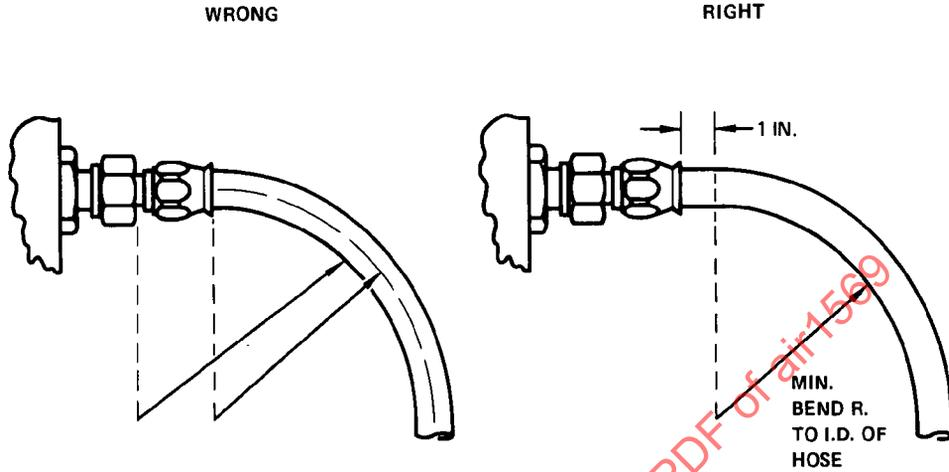

FIGURE 10
- 5.2.7.1 Measurement of Bend Radius: Measure the bend radius from the inside of the bend. Allow at least one inch straight run out of the fitting. (See Fig. 10).